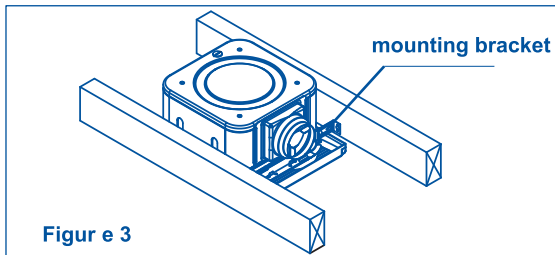

Figure 2
5. Take out three screws from the wire cover and remove the wire cover (Figure2).